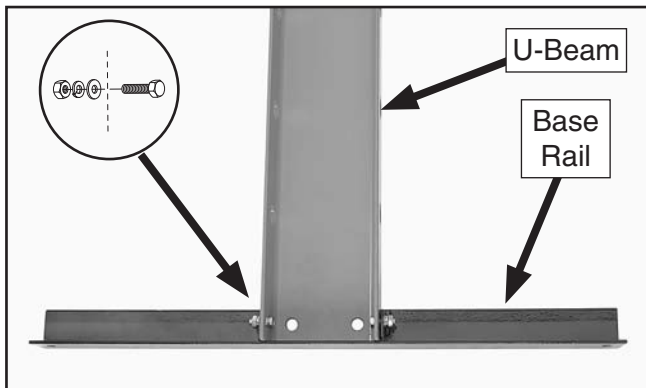

Figure 4. Base assembly.
2. Using a 14mm wrench, fasten both U-Beams to both base rails with four M8-1.25 x 25 hex bolts and four of the matching flat washers, lock washers, and hex nuts. Make sure the hex bolts are pointing outward away from the inside of the rails, as shown in **Figure 4**, or they will obstruct the bolts in the next step.